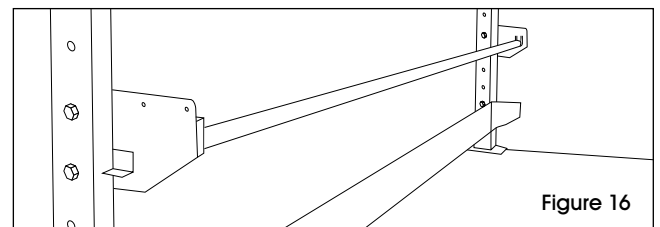

Figure 16
1. Line up reel holder brackets (3) with uprights at desired height.
2. Secure to uprights with four M6 x 40 mm hex bolts and flange nuts. (See Figure 16)